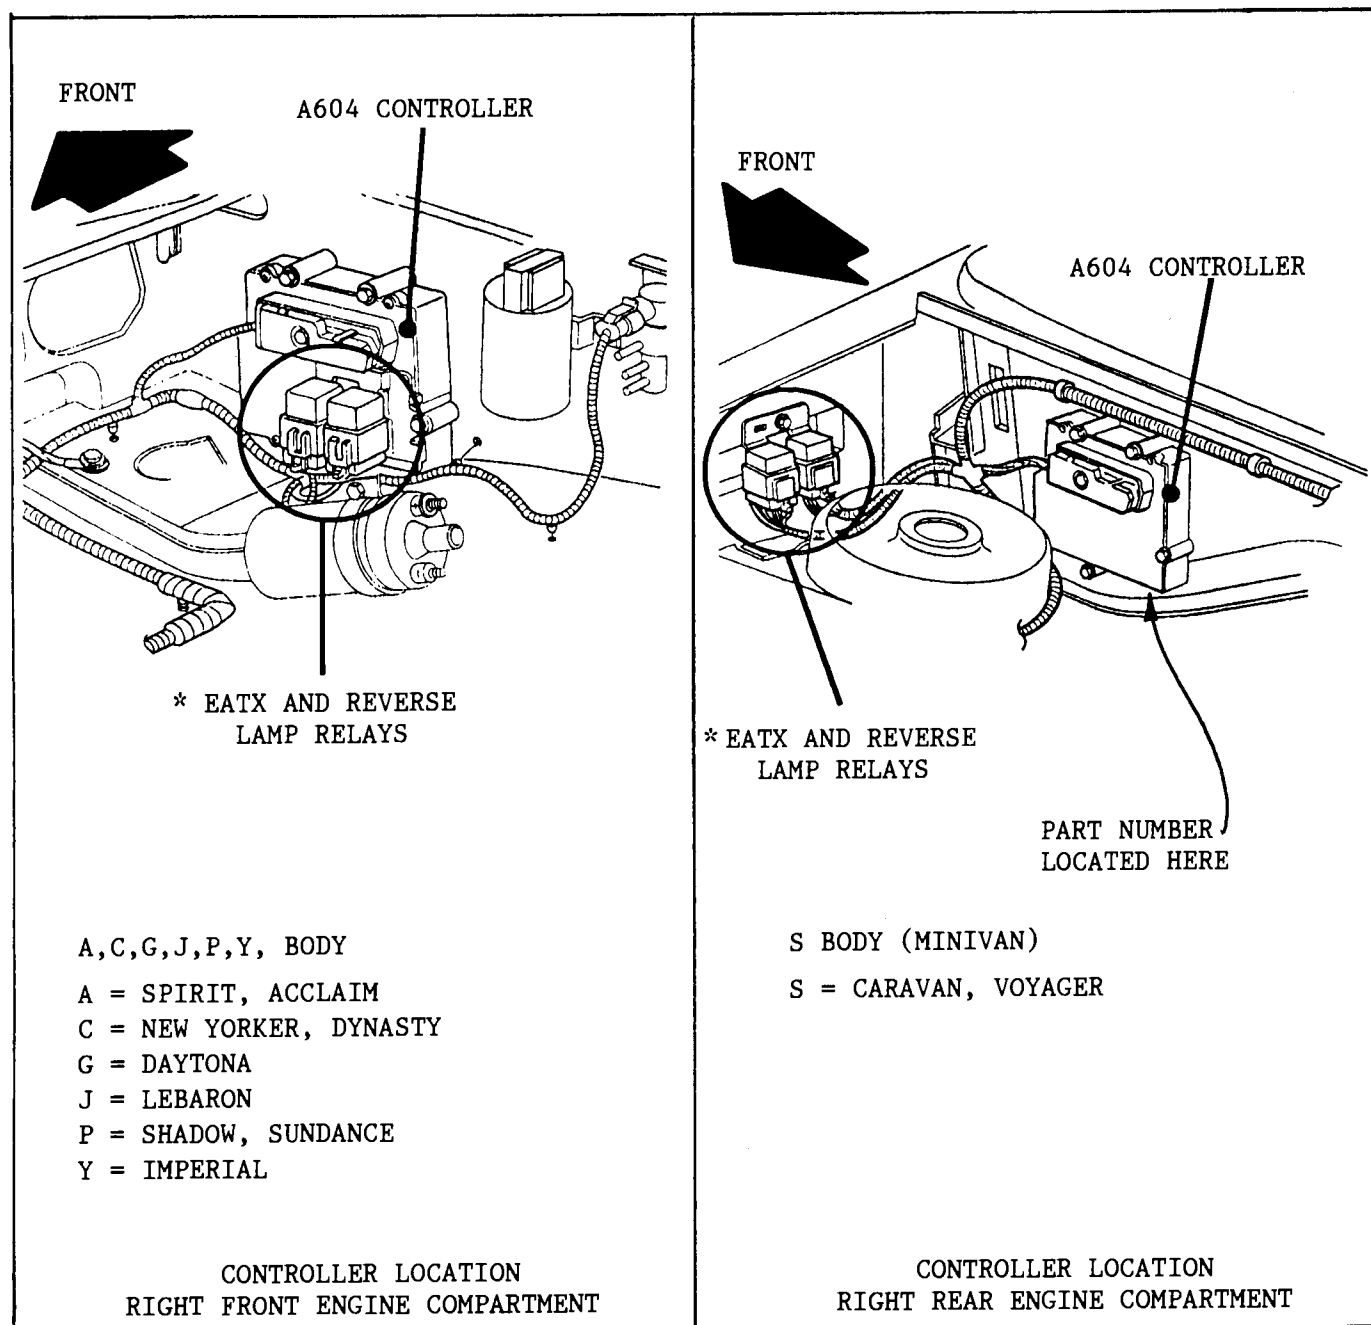

Figure 7
- (1) TRANSAXLE CONTROLLER - The controllers are identified by the last three digits of the OEM part number. The part number is on a sticker that is located on the bottom of the controller as shown in Figure 7. The locations of the controllers will vary depending on the model of the vehicle. Refer to Figure 7 for the different locations. Figure 7 and 8 also shows the locations of the EATX relay, as their location will also vary depending on the model of the vehicle.